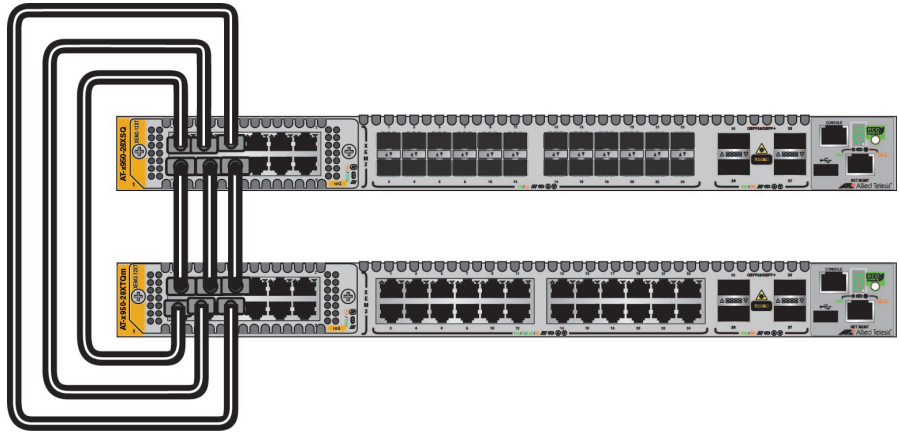

Figure 33. Example Trunk Using XEM2-12XT Line Cards
- ❑ Figure 33 on page 83 is an example of a stack of two switches with a trunk of six 10Gbps links on XEM2-12XT Line Cards.